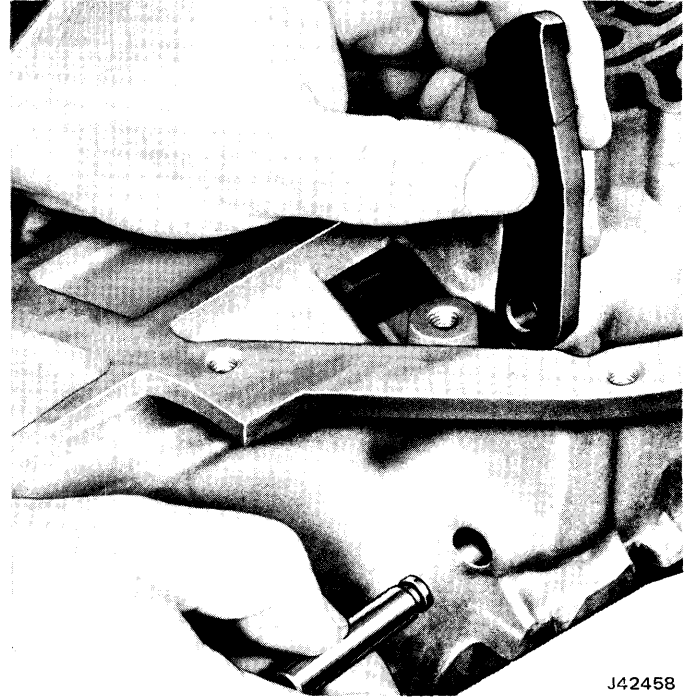

Fig. 7-29 Removing Parking Pawl and Pawl Shaft
- (9) Remove parking pawl return spring, parking pawl shaft, and parking pawl (fig. 7-29).